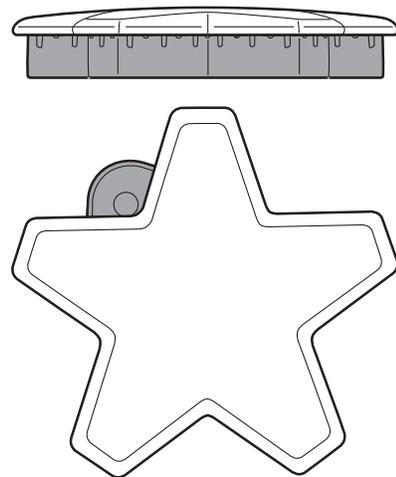
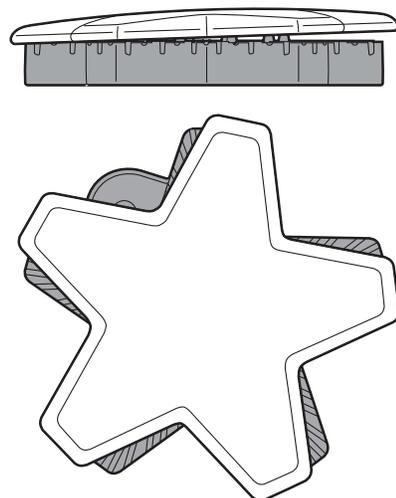

Figure 14: Correct Burner Cap Placement
Figure 15: Incorrect Burner Cap Placement
- Check each burner to make sure there is no gap between the burner cap and burner base. See *Figure 14* and *Figure 15: Correct and Incorrect Burner Cap Placement* to see examples of correct and incorrect placements of the burner cap.
- You may gently try to move the burner caps from side to side to check if the caps are properly placed on the burner bases. When properly placed, each burner cap will rest flat on top of its burner base, and completely cover the star-shape of the burner base when viewed from the top as shown in *Figure 14: “Correct Burner Cap Placement”*.